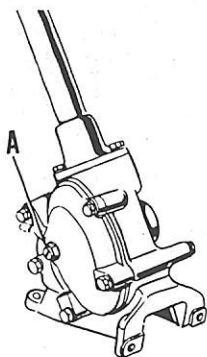

Fig. 9—On Models MF150 and MF165, turn adjusting screw (A) on housing cover, to adjust steering gear backlash.
11. BACKLASH ADJUSTMENT. Steering gear backlash is adjusted by means of the adjusting screw (A—Fig. 9) located on right side of steering gear housing. Turning the adjusting screw clockwise reduces the backlash. Adjustment is correct when a barely perceptible drag or resistance is felt when steering wheel is turned through the mid-position, and no backlash exists. Before attempting to adjust the backlash, first check the steering wheel shaft (camshaft) bearings as outlined in paragraph 12, and adjust the preload if required.